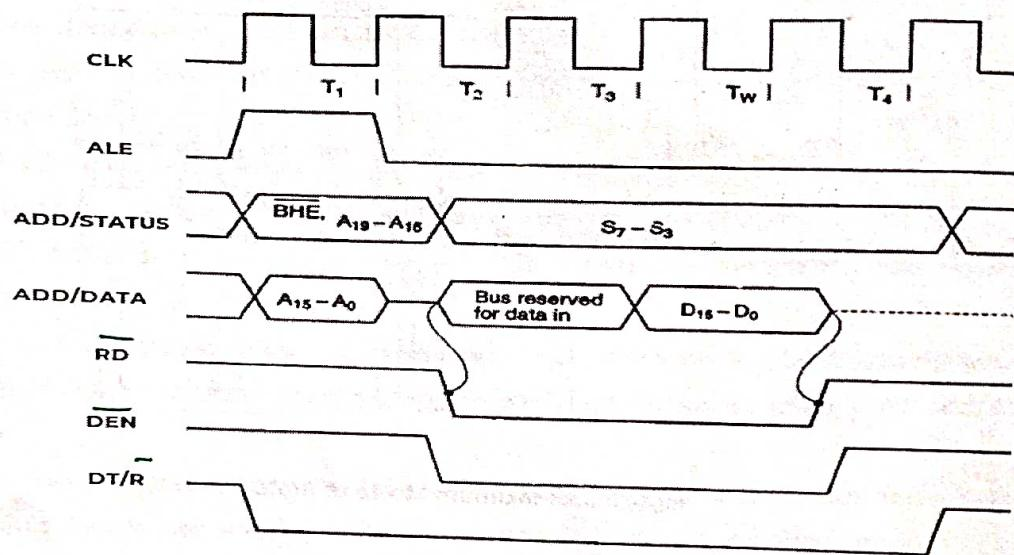

Figure 1.4: Timing Diagram for Read Machine Cycle in Minimum Mode of 8086.
5. Figure 1.4 shows the timing diagram for Read Machine Cycle of 8086.